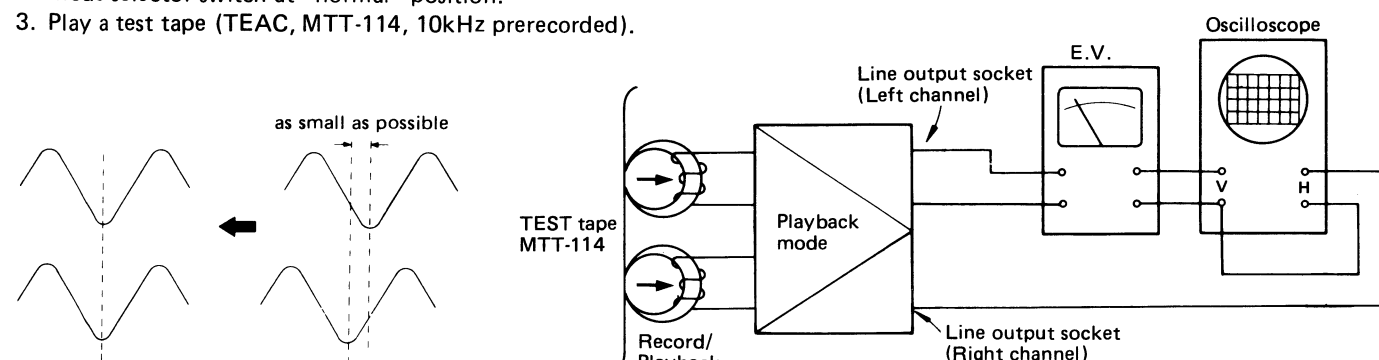

Figure 11-3
1. Make connection of instruments as shown in Fig. 11-3.